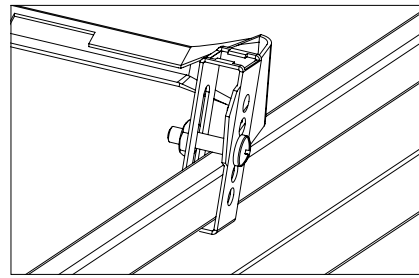

FIGURE 3
3. Attach luminaire securely to grid using brackets, screws and nuts provided or wiring to grid members. See Figure 3.